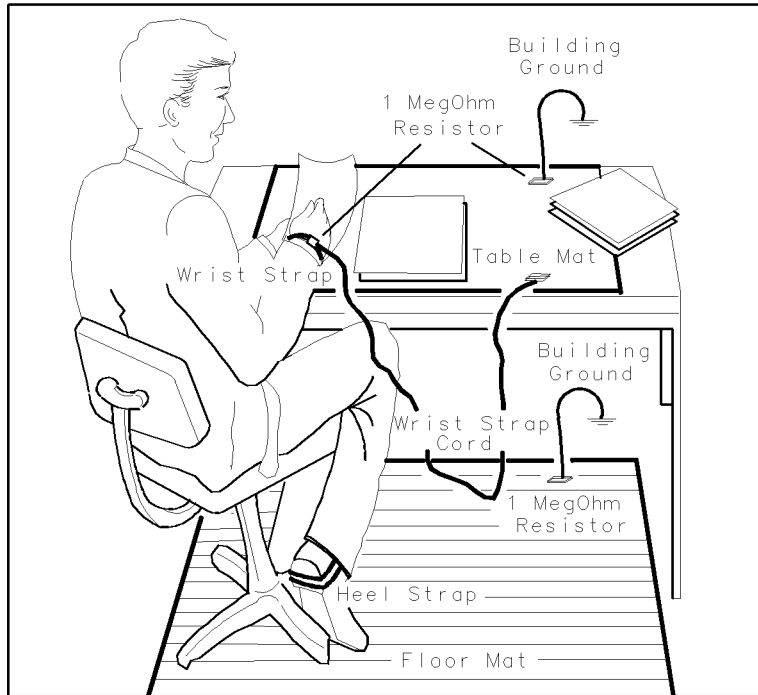

Figure 1-4. Example of a Static-Safe Work Station
Figure 1-4 shows an example of a static-safe work station using two types of ESD protection: (1) conductive table-mat and wrist-strap combination, (2) conductive table-mat and heel-strap combination. The two types must be used together to ensure adequate ESD protection. Refer to Table 1-1 for a list of static-safe accessories and their part numbers.